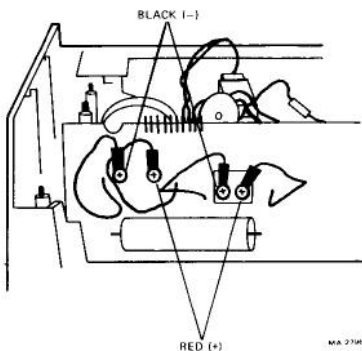

Figure 3-10 Power Supply/Monitor Assembly Capacitor Connections
11. Remove the leads from the capacitors (Figure 3-10).